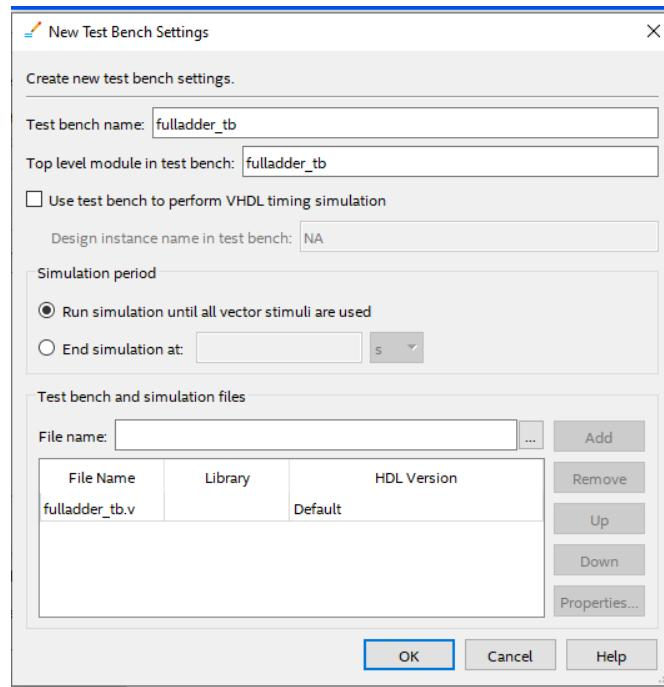

Fig. 1.14 Select Testbench file
- In **Assignments – Settings – EDA Tool Settings – Simulation- Nativelink Settings –** Select **Compile Testbench** and Click on **Testbench**. Select **fulladder\_tb.v** as the testbench as shown in Fig. 1.14